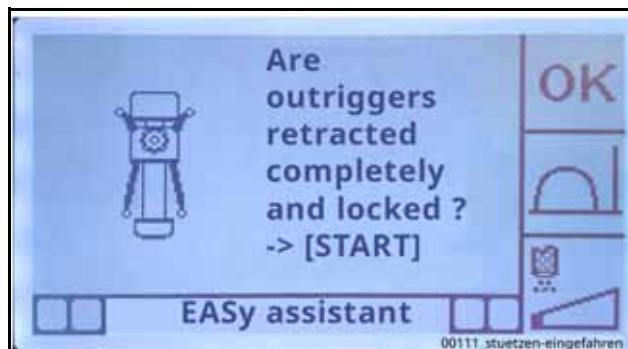

Fig. 445
- Ensure that the outriggers are in the transport position and locked (**Fig. 445**).